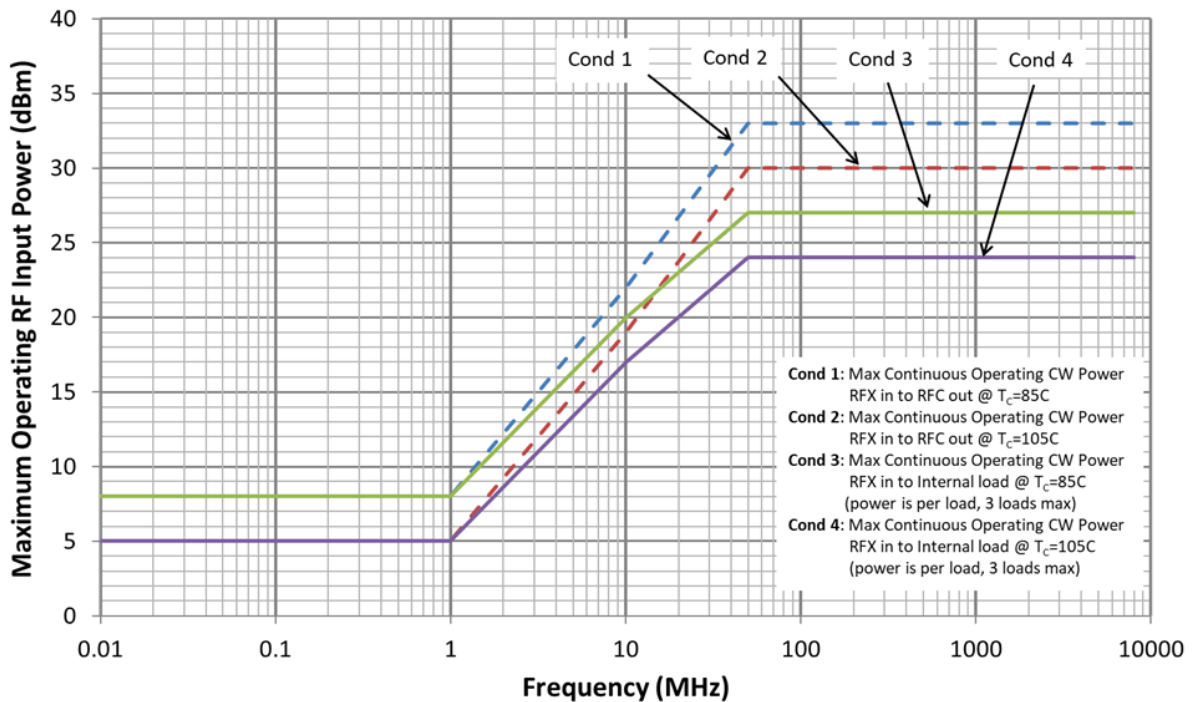

Figure 1. Maximum RF Input Power vs. RF Frequency
- Levels based on $T_C \leq 85^\circ\text{C}$. See Figure 1 power derating curve for higher case temperatures.
3. The input 0.1dB compression point is a linearity figure of merit. Refer to Absolute Maximum Ratings section for the maximum RF input power and Figure 1 for maximum operating RF input power.